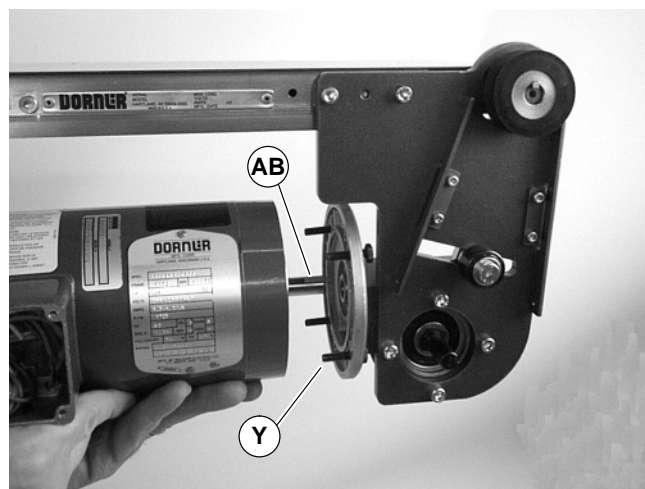

Figure 23
5. With key (AB of Figure 23) in keyway, slide motor and gear reducer together. Install screws (Y) and tighten.